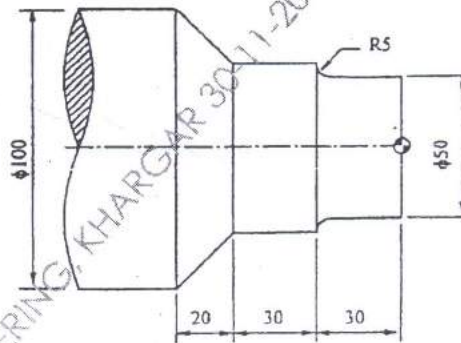

Fig. 1
- a) Write a Manual part program for finishing the following forged component as shown in Fig. 1. Illustrate the meaning of each code used in the program and the tool movement by showing the tool path. Take spindle speed as 1000 rpm and feed rate 0.5 mm/rev. Use the diametral format for programming.
- c) Write the program for the above component (fig.1) assuming the raw billet size of dia. 100 mm and length 150 mm, using the canned cycle for rough turning followed by finished turning, keeping the finishing allowance as 0.5 mm and 0.3 mm along Z and X axis respectively. 06